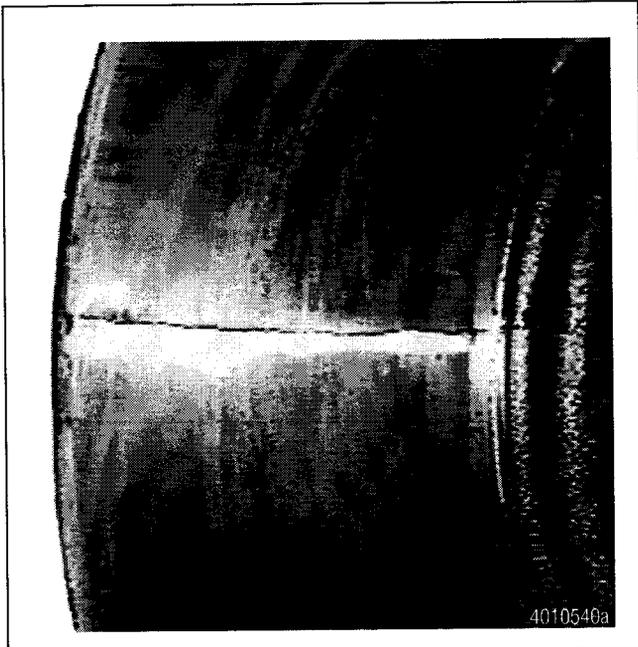

Figure 20
- Cracks in the brake drum. Figure 20.